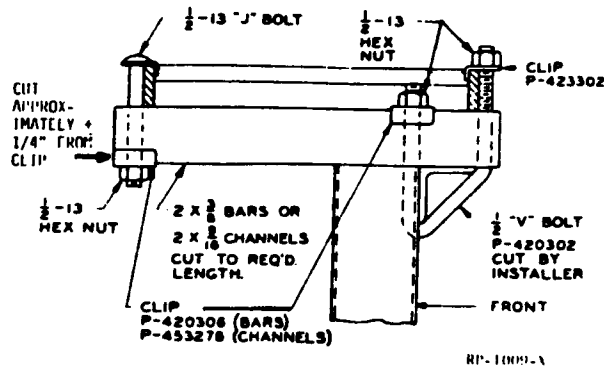

FIG. 62C CHANNEL-TYPE RELAY RACK SUPPORTED FROM CABLE RACK BY AUXILIARY FRAMING - STEP-BY-STEP SYSTEMS - A&M ONLY (PAR. 4.221) (BSP 800-614-157, Fig. 62C)
4.221 This paragraph is rated A&M Only. Support ladder-type cable rack over relay racks, message register racks, and similar frames in step-by-step offices as shown in Figure 62C.